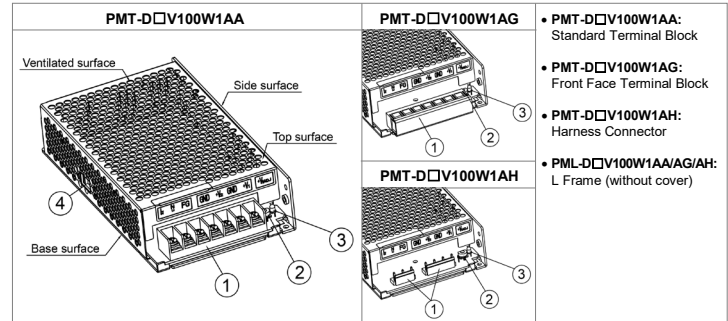

Fig. 1. Device Descriptions
- Must select correct AC input voltage before turning on (Refer to Fig. 1).
Refer to Fig. 1.: